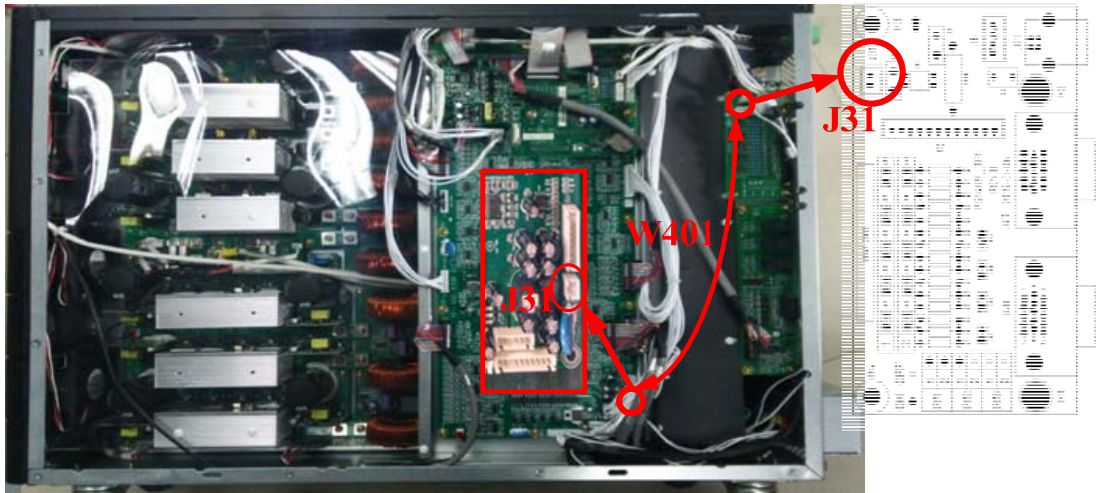

Figure 2 W401 cable
2. Connect the signal cable W401 (Parallel board J31 to control board J31), as is shown in figure 2.